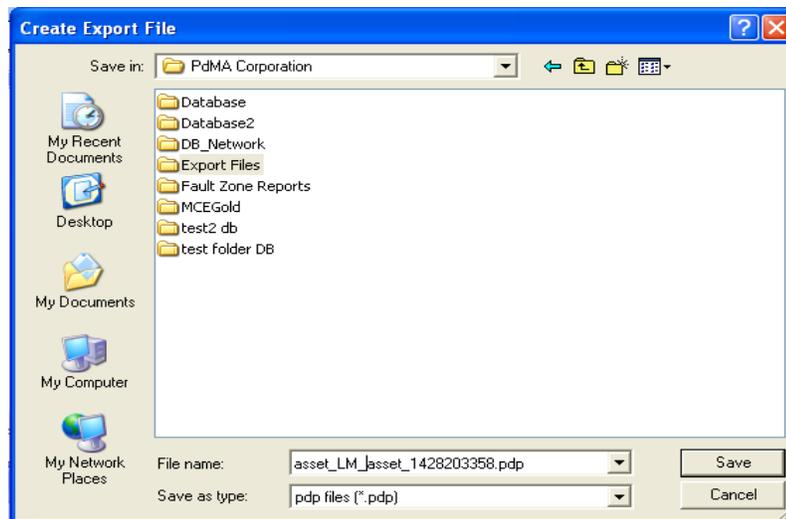

Figure 3-62: Create Export File
3. In the Create Export File window, Figure 3-62, select a location to store your file.